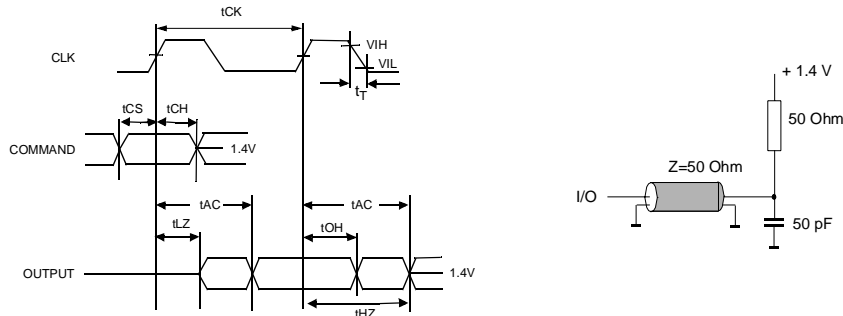

Figure 1.
- AC timing tests have V_{IL} = 0.8V and V_{IH} = 2.0V with the timing referenced to the 1.4 V crossover point. The transition time is measured between V_{IH} and V_{IL}. All AC measurements assume t_T = 1 ns with the AC output load circuit shown in Figure 1.